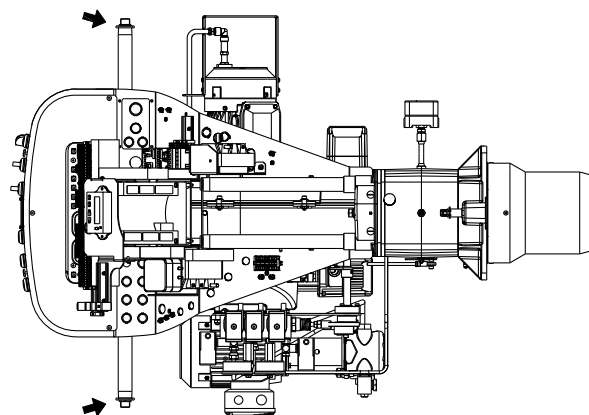

Fig. 11
- screw the two extension bars (1) on the pins (2) (Fig. 11);
- place the two plates (3) fix them on the relevant ring nuts (4);
The four burner lifting points are indicated in Fig. 11.